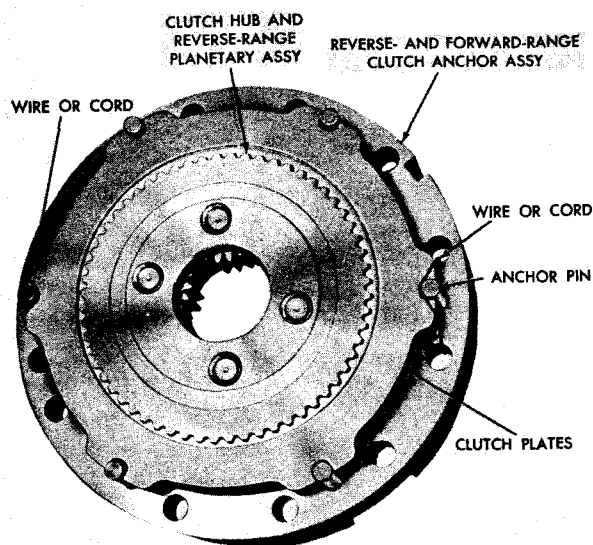

Fig. VII-9. Reverse-range clutch plates on reverse-range planetary carrier and hub, wired in position on reverse- and forward-range anchor
(1) Assemble reverse-range clutch plates 7 and 8 (A, foldout 5) on clutch hub 11 which is part of reverse-range planetary carrier assembly 9, and position these in place on reverse- and forward-range clutch anchor assembly 16 (A, foldout 5), (fig. VII-9). Insert a soft wire or cord through one spring hole in the anchor, around the anchor pin and over
(2) Repeat this operation 180° away (fig. VII-9).